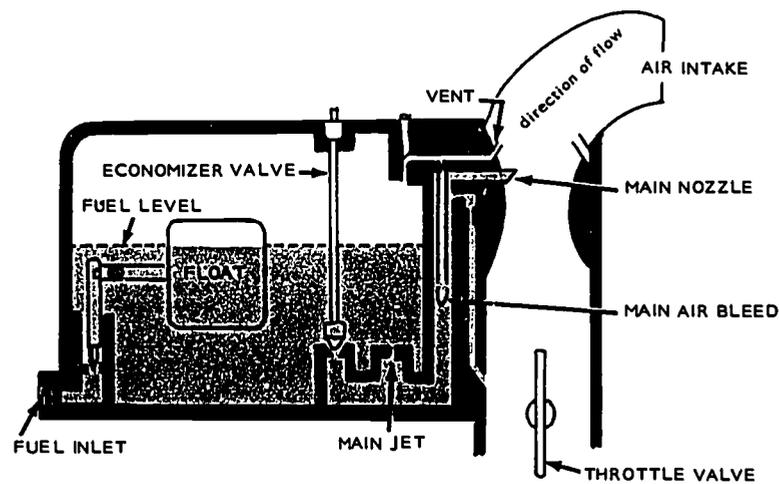

Figure 18. The Downdraft Float Carburetor.
*Downdraft float carburetor.*—The downdraft float type carburetor operates on much the same principle as does its updraft brother, but the arrangement of the parts is a little different (Fig. 18). The main discharge nozzle is in the venturi, but it protrudes from the side instead of being in the middle. The idling jet is below the discharge nozzle. Air is vented into the float chamber, providing enough pressure to force the fuel up through the nozzle and into the carburetor barrel.